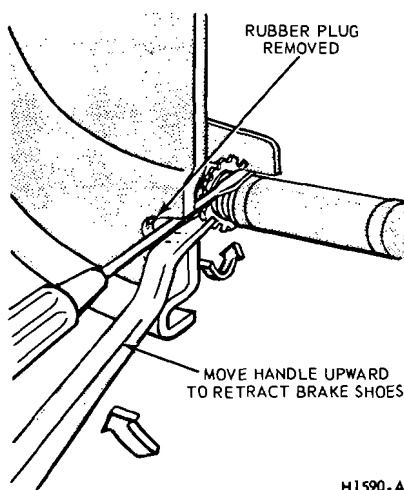

FIG. 6 Backing Off Brake Adjustment
4. If the drum will not come off, pry the rubber cover from the brake backing plate. Insert a narrow screwdriver through the slot and disengage the adjusting lever from the adjusting screw. While holding the adjusting lever away from the screw, back off the adjusting screw with the brake adjusting tool (Fig. 6). **Be very careful not to burr, chip, or damage the notches in the adjusting screw; otherwise the self-adjusting mechanism will not function properly.**
Remove the three drum retainer nuts and remove the brake drum. If the drum will not come off, pry the rubber cover from the backing plate. Insert a narrow screwdriver through the hole in the backing plate, and disengage the adjusting lever from the adjusting screw. While holding the adjusting lever away from the adjusting screw, back off the adjusting screw with the brake adjusting tool (Fig. 6). **Be very careful not to burr, chip, or damage the notches in the adjusting screw; otherwise, the self-adjusting mechanism will not function properly.**